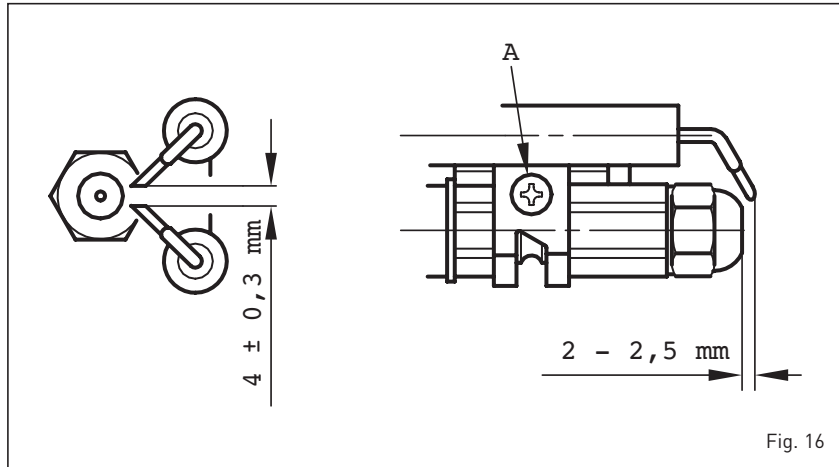

Fig. 16
4.7.2 Cleaning combustion head (fig. 16)
The combustion head is cleaned in the following manner (fig. 16):
- Loosen the fixture screw (A fig. 16) of the electrodes support and remove it.